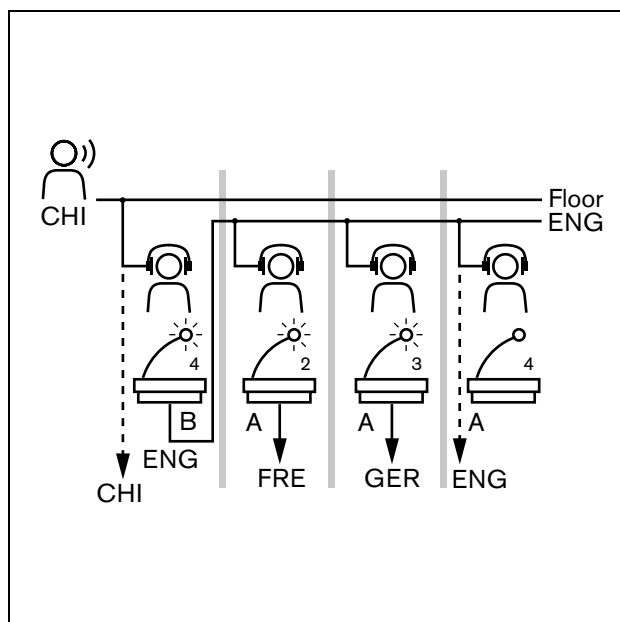

figure 4.11: Relay interpretation (auto-relay active)
- Relay interpretation (see figure 4.11).
In a situation where interpreters are unfamiliar with the floor language and therefore unable to interpret it, the system offers an automated relay facility (see figure 4.11). An interpreter assigned to translate the floor language, translates it into another language easily understood by other interpreters. The floor language on all interpreter desks is replaced by this transfer interpretation. This transfer interpretation or auto-relay is then used as the base for further translation. In the example in figure 4.11, the original floor language is Chinese. The auto-relay is enabled at the Chinese interpreter desk. This interpreter selects output B and automatically relays an English translation as auto-relay to all other desks for interpretation and also feeds the English language distribution channel. The incoming floor key indicator shows on all other desks that auto-relay is active.